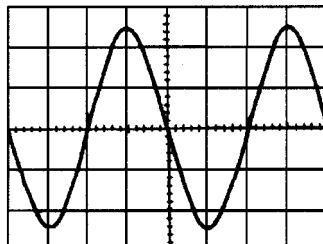

Figure A3.1
- 1 A conductor, 25 cm long is situated at right angles to a magnetic field. Determine the strength of the magnetic field if a current of 12 A in the conductor produces a force on it of 4.5 N. (3)
- 2 An electron in a television tube has a charge of 1.5×10^{-19} C and travels at 3×10^7 m/s perpendicular to a field of flux density $20 \mu\text{T}$. Calculate the force exerted on the electron in the field. (3)
- 3 A lorry is travelling at 100 km/h. Assuming the vertical component of the earth's magnetic field is $40 \mu\text{T}$ and the back axle of the lorry is 1.98 m, find the e.m.f. generated in the axle due to motion. (5)
- 4 An e.m.f. of 2.5 kV is induced in a coil when a current of 2 A collapses to zero in 5 ms. Calculate the inductance of the coil. (4)
- 5 Two coils, P and Q, have a mutual inductance of 100 mH. If a current of 3 A in coil P is reversed in 20 ms, determine (a) the average e.m.f. induced in coil Q, and (b) the flux change linked with coil Q if it wound with 200 turns. (5)
- 6 A moving coil instrument gives a f.s.d. when the current is 50 mA and has a resistance of 40Ω . Determine the value of resistance required to enable the instrument to be used (a) as a 0–5 A ammeter, and (b) as a 0–200 V voltmeter. State the mode of connection in each case. (6)
- 7 An amplifier has a gain of 20 dB. Its input power is 5 mW. Calculate its output power. (3)
- 8 A sinusoidal voltage trace displayed on a c.r.o. is shown in Figure A3.1; the 'time/cm' switch is